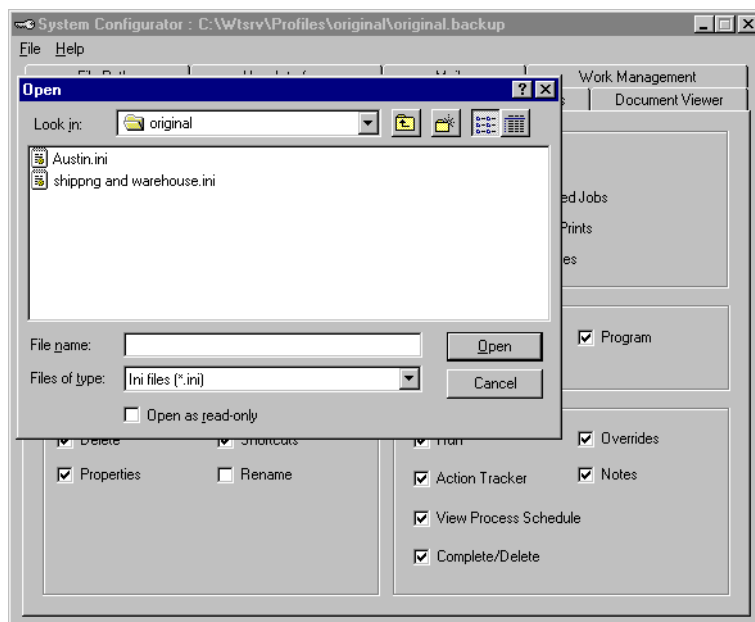

Figure 71. System Configuration - Open initialization file
1. Start the JBA System Configuration utility (installed by System 21 Explorer) by clicking **Start->Programs->JBA System21->System Configuration**. Initialization files can be opened, edited, and saved using the file option as shown in Figure 71 on page 126. Note that the currently opened initialization file is shown in the title bar. This utility updates the initialization file with the options desired for the end users. We recommend that you create a backup of the original initialization file first, by clicking **File->Save As**.